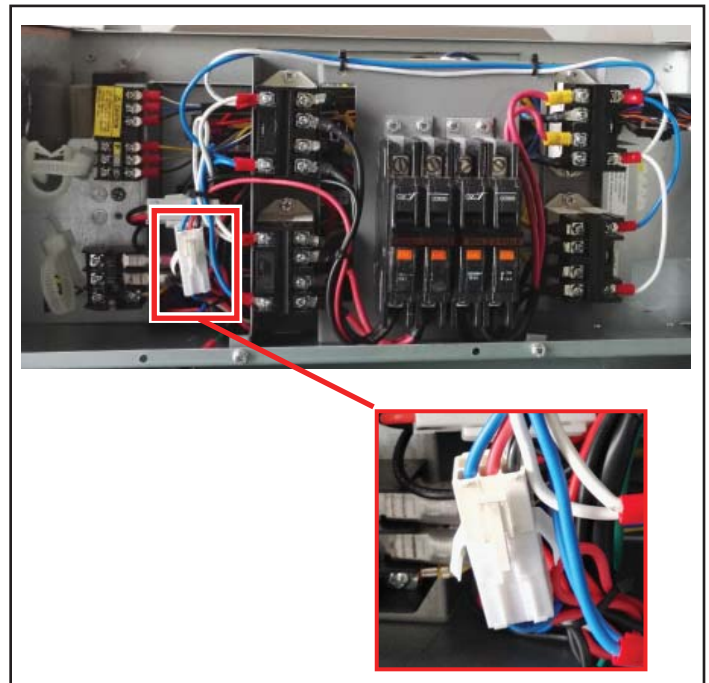

Figure 18. Connect White Plug
19. Connect the white plug of the breaker panel to the white connector of the transformer and relay assembly. See figure 18.